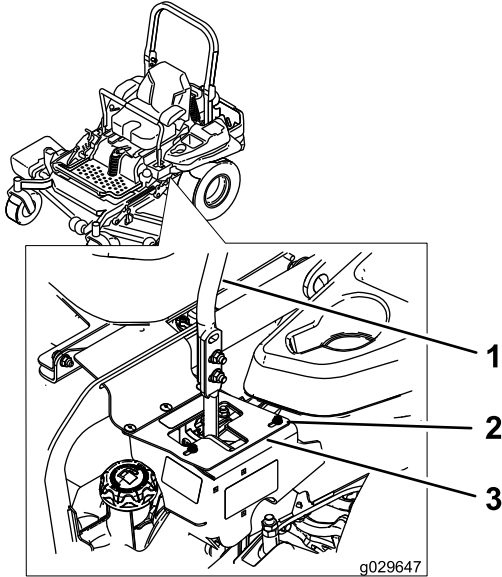

Figure 65
- If it tracks to the right, loosen the bolts and adjust the left stop plate rearward on the left T-slot until the machine tracks straight (Figure 65).
right T-slot until the machine tracks straight (Figure 65).
6. Tighten the stop plate (Figure 65).